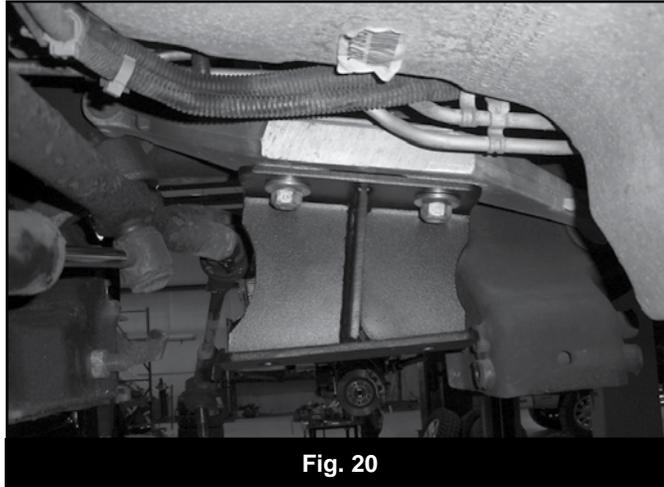

Fig. 20
40. Locate the new passenger's side differential bracket (02192). Install the bracket on the existing studs on the passenger's side factory bracket. Fasten with the original nuts and washers. When installed the open side of the bracket will face inward and the bracket will taper down as it goes to the rear (Fig 20). Torque nuts to 65 ft-lbs.